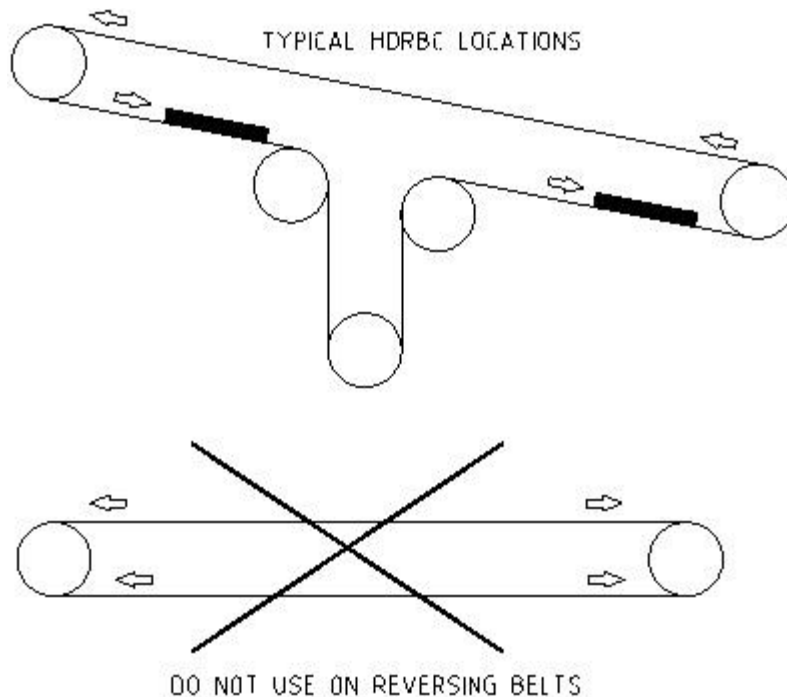

Figure 1: Typical installation positions and use of HD-RBC
- Step 2** Measure 124mm forward from the nose of the HDRBC, and 324mm perpendicular upwards from the belt surface (see fig 1). Mark this point on the stringer or conveyor structure on each side of the belt, ensuring that the line between the points is at 90° (square) to the belt. These points represent the centre lines of the front support pipe and front mount sets.